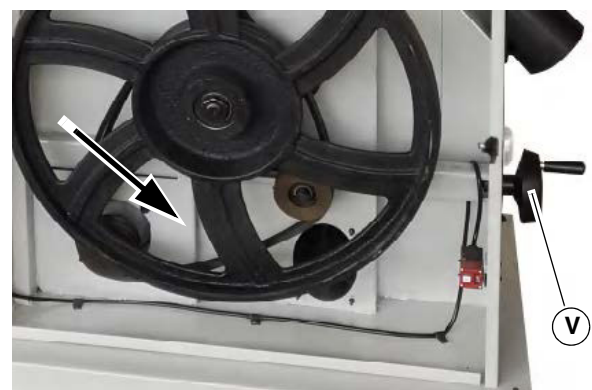

Fig. 25: Adjusting the belt tension
Step 4: If the deflection is more than 3/4", turn the hand wheel (Pos. V, Fig. 25) to increase the tension.